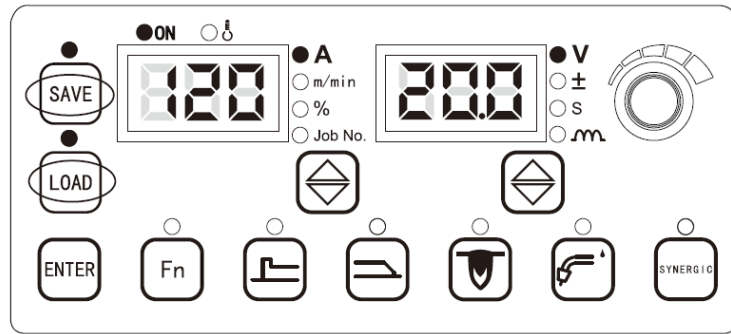

Figure 3-18 Enabling the common lock
1. Set welding parameters. Press and hold the **ENTER**  button for 3 seconds. When the left LED screen displays **L**, the **SAVE**  and **LOAD**  indicators flash and the common lock function is enabled. See Figure 3-18.